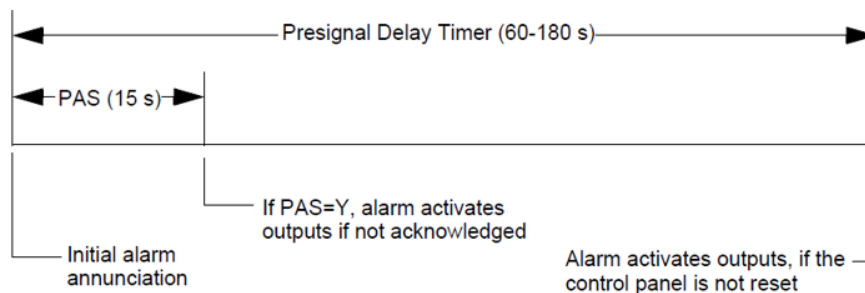

Figure 4-2: Presignal and PAS Time
- **Presignal Delay Timer** (1:00 to 3:00 minutes) that delays activation selected for PAS/ Presignal Delay participation.. See Figure 4-2: Presignal and PAS Time
- **PAS** (Positive Alarm Sequence) (00:00 to 00:59 seconds) selection, in addition to the Presignal Delay Timer, is a default 15-second timer, for acknowledging an alarm signal from a fire detection/ initiating device. If the alarm is not acknowledged within the time period, all local and remote outputs activate immediately and automatically. See Figure 4-2: Presignal and PAS Time